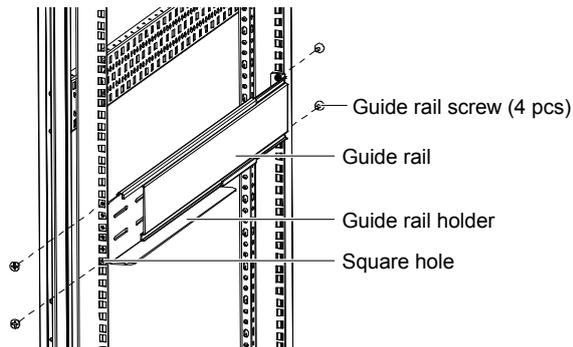

Figure 2-9 Installing the guide rail
3) Align the installation holes of the guide rail with the square holes of the rack, fix the guide rail onto the rack through the guide rail screws (a total of eight), each left guide rail and right guide rail need four guide rail screws, as shown in Figure 2-9.